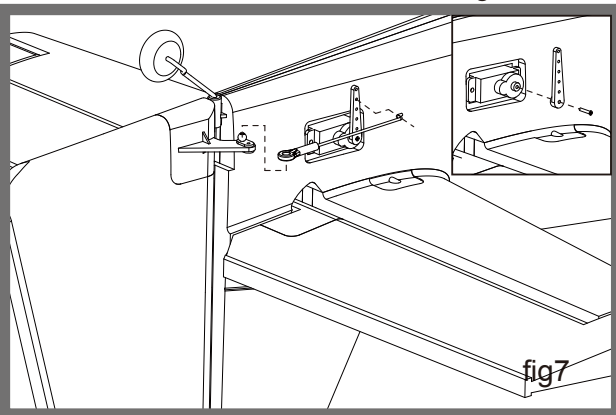

fig7
4. Install the rudder servo arm and linkage as shown in Figures 7 and 8.